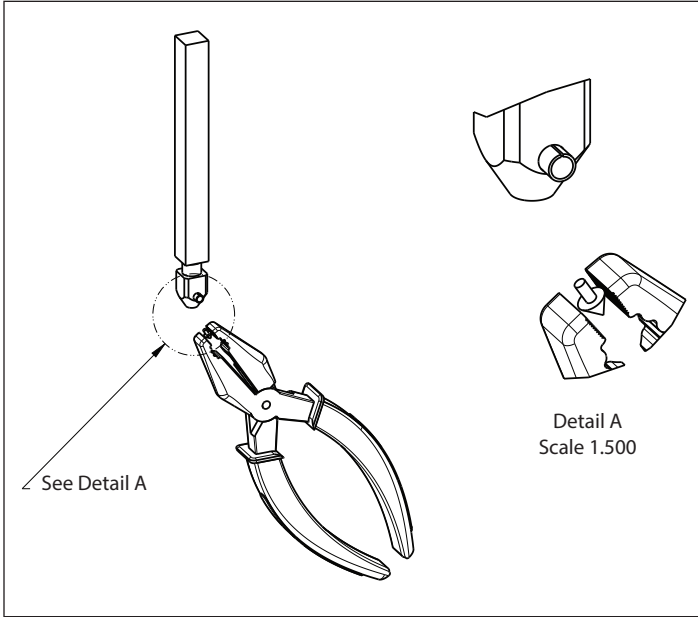

Figure 9. Twisting to Remove the Point.
- B. With a slight twisting motion of the pliers, remove the point (see Figure 9).